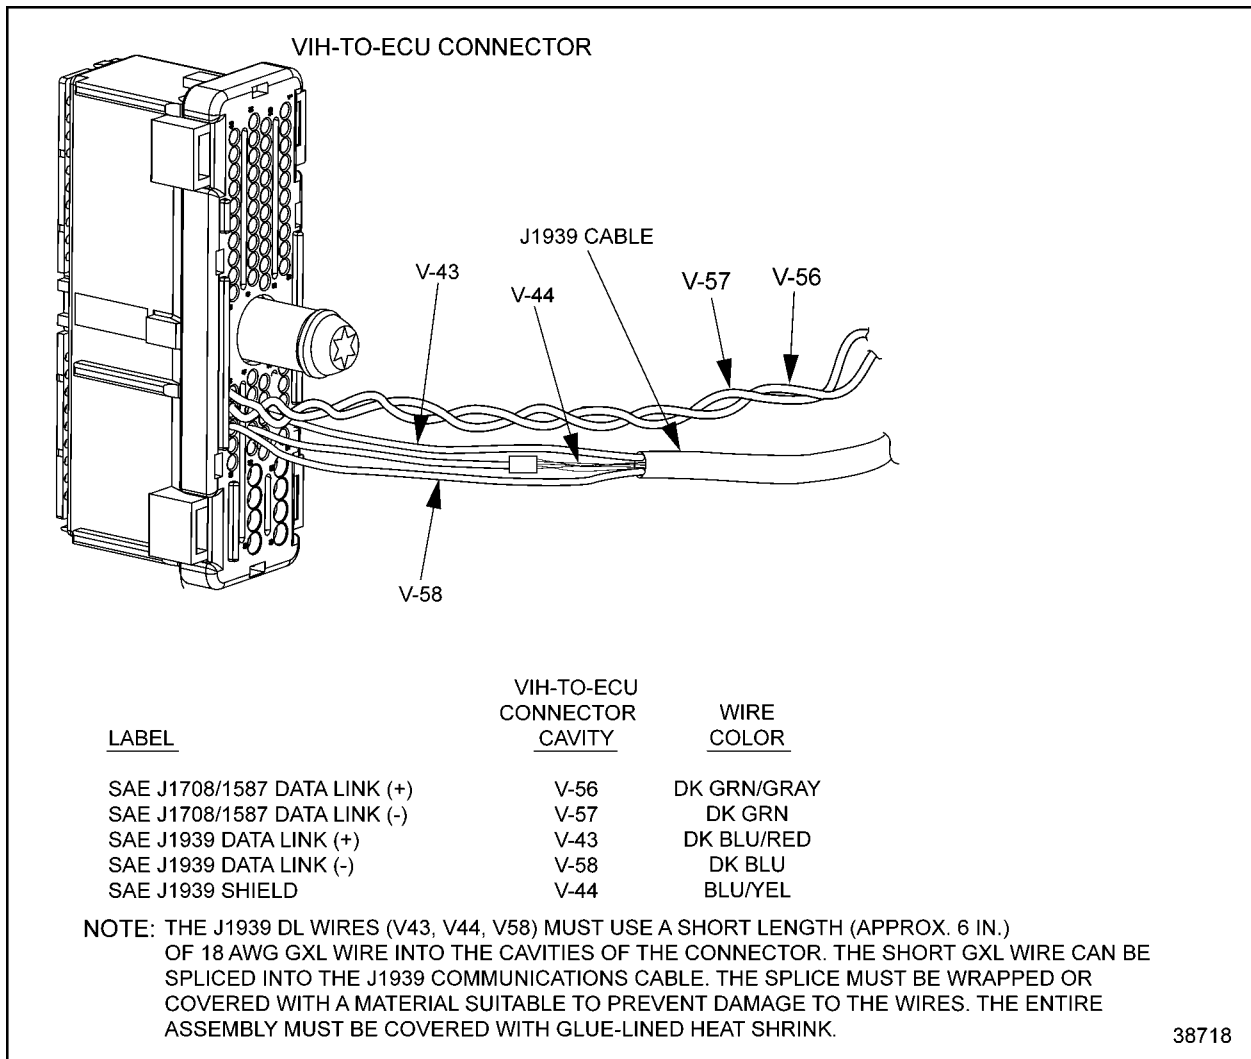

Figure 19-5 ECM/ECU Vehicle Harness Connector
8. Check the terminals at the vehicle harness connectors (both ECM/ECU and harness side) for damage: bent, corroded and unseated pins or sockets. See Figure 19-5.